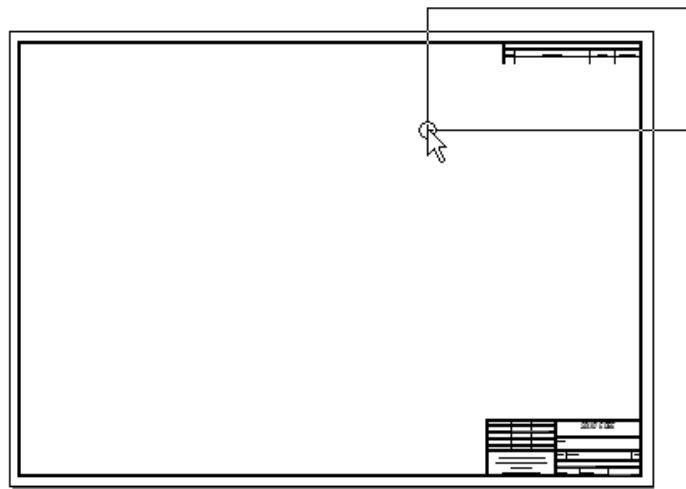

Figure 12-33 Selecting the table
- Set up the drawing sheet and the background sheet, refer to Figures 12-33 and 12-34.
6. Now, you need to delete the table at the top. To do so, select the top table, as shown in Figure 12-33. All entities in the table turn magenta in color, which indicates that they are selected. Press the DELETE key to delete the selected entities.